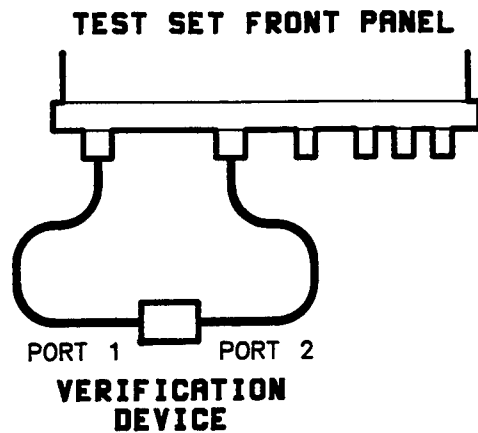
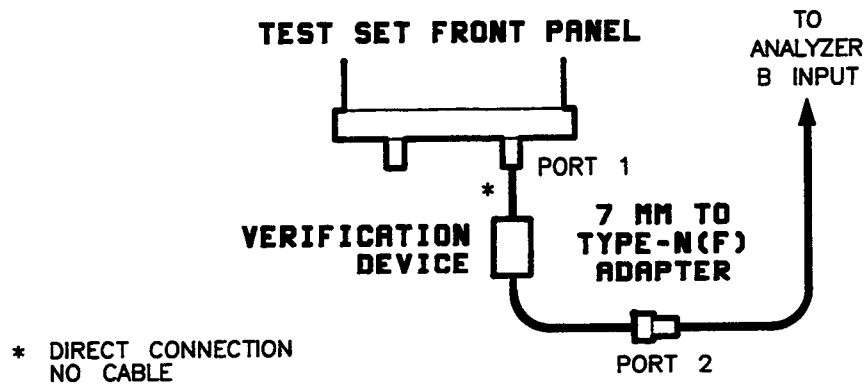

Figure 3. Setup For Verification Measurement (S-Parameter Test Set)
Figure 4. Setup For Verification Measurement (Transmission/Reflection Test Set)
34. When prompted, connect the 20 dB attenuator verification device as shown in Figure 3 for an analyzer with an S-parameter test set. For an HP 8753B/C with an HP 85044A transmission/reflection test set, see Figure 4.